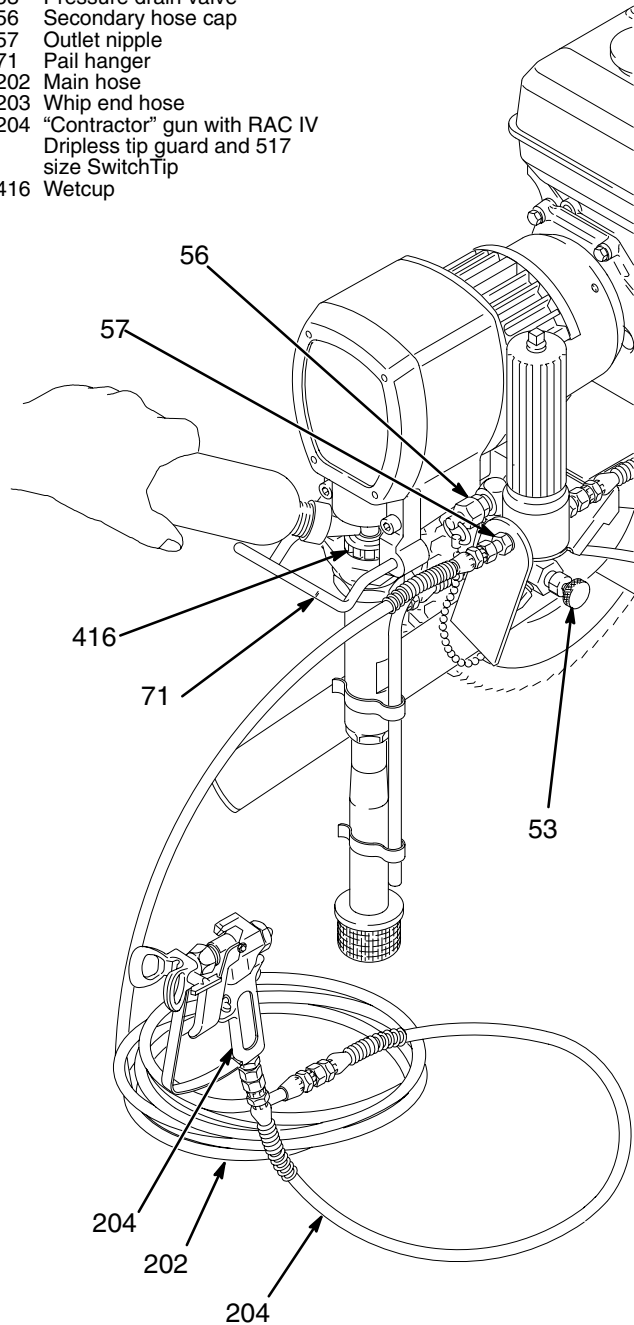

Fig. 2
1. **Connect hose and gun.** (Refer to Fig. 2.)
- a. Remove the plastic cap plug from the filter outlet nipple (57) and screw the 50 ft. (15.2 m) main fluid hose (202) onto the nipple.
- b. Connect the whip end hose (203) between the main fluid hose and the gun (204) inlet adapter.
2. **Two gun hookup.** (Refer to Fig. 2.) Remove the cap (56) from the secondary hose outlet and attach an accessory hose and gun to the 1/4 npsm(m) nipple.
3. Never install any shutoff device between the filter (51) and the main hose (202). See Fig. 2.
4. Always use the main filter outlet (57) for one gun operation. Never plug this outlet.
3. **Fill packing nut/wetcup.** (See Fig. 2.) Fill the packing nut/wetcup (416) 1/3 full with Graco Throat Seal Liquid (TSL), supplied.